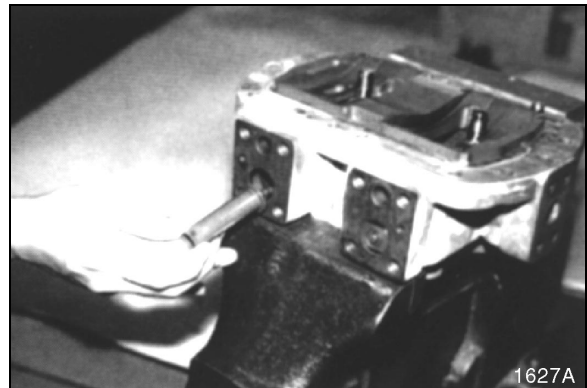

Figure 34
7. Remove spring seat. See Figure 34.